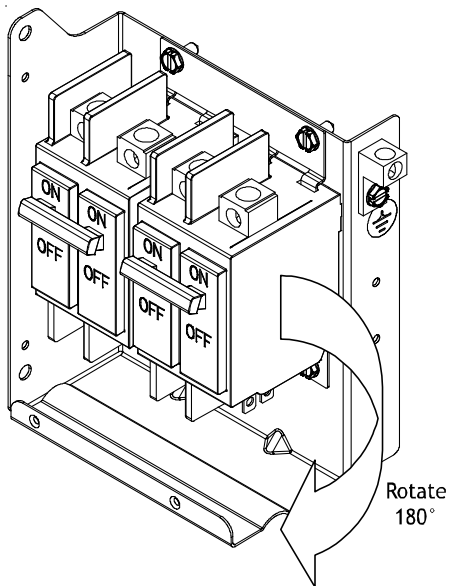

Figure 2
5. For downflow applications with electric heat kits that have circuit breakers, the circuit breakers must be rotated 180 degrees (such that the ON position will be with the circuit breaker handles up). To do so, remove and retain the 2 screws securing the circuit breaker clamps, rotate the circuit breakers and clamps 180 degrees, then use the same 2 screws to re-secure the circuit breakers. See Figure 2.